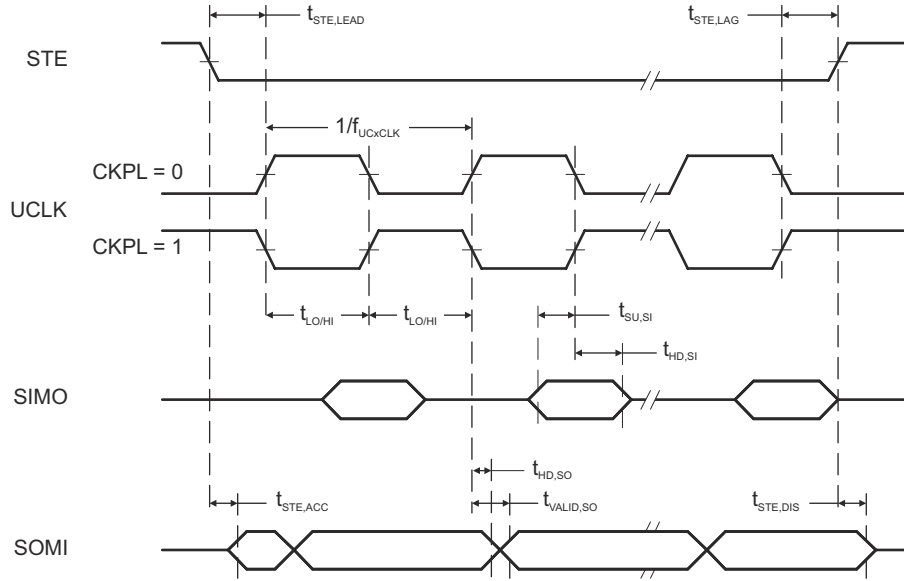
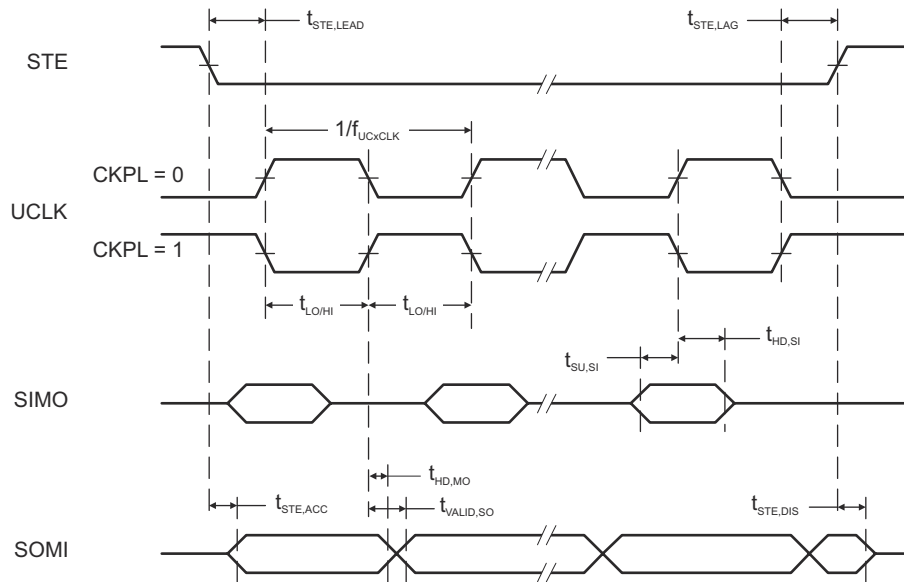

图 7-14. SPI Slave Mode, CKPH = 0
图 7-15. SPI Slave Mode, CKPH = 1
- (2) Specifies the time to drive the next valid data to the SOMI output after the output changing UCLK clock edge. See the timing diagrams in Fig 7-14 and Fig 7-15.
- (3) Specifies how long data on the SOMI output is valid after the output changing UCLK clock edge. See the timing diagrams in Fig 7-14 and Fig 7-15.